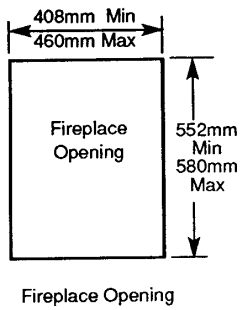

Fig. 2
1. Any chairbrick must be removed if necessary to achieve the minimum depth. The fireplace opening must be a minimum of 408mm (16 1/16 in) wide (Fig. 2).